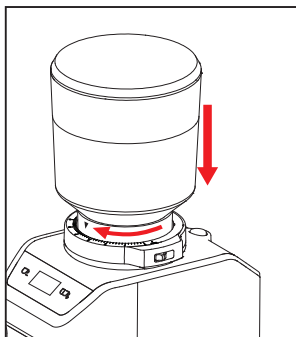

Fig. 1
1. To mount the bean hopper, align the arrow on the hopper with the arrow on the top of the grind cartridge and turn clockwise to lock. (Fig. 1)